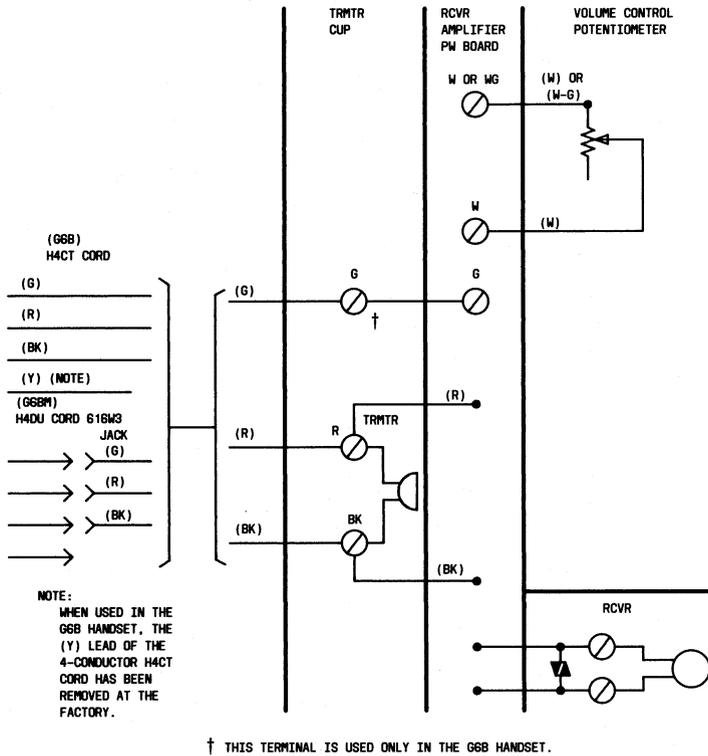

Fig. 3—G6B (MD) Last (1977-1979) and G6BM Handset, Connections
- (1) Remove the transmitter cup, transmitter unit, and transmitter board assembly.
- (2) Remove the spade-tipped handset cord leads from the handset.
- (3) Install a 616W-type jack (ordered separately) by snapping the jack into the cutout provided on the transmitter cup. On G6- and G8-type handsets the white jack lead is not required and may be clipped off.
- (4) Connect and dress the leads from the 616W-type jack to the transmitter board terminals as shown in Fig. 3, 4, or 6.
- (5) Reassemble the transmitter board in the handset and replace transmitter cup on handset.